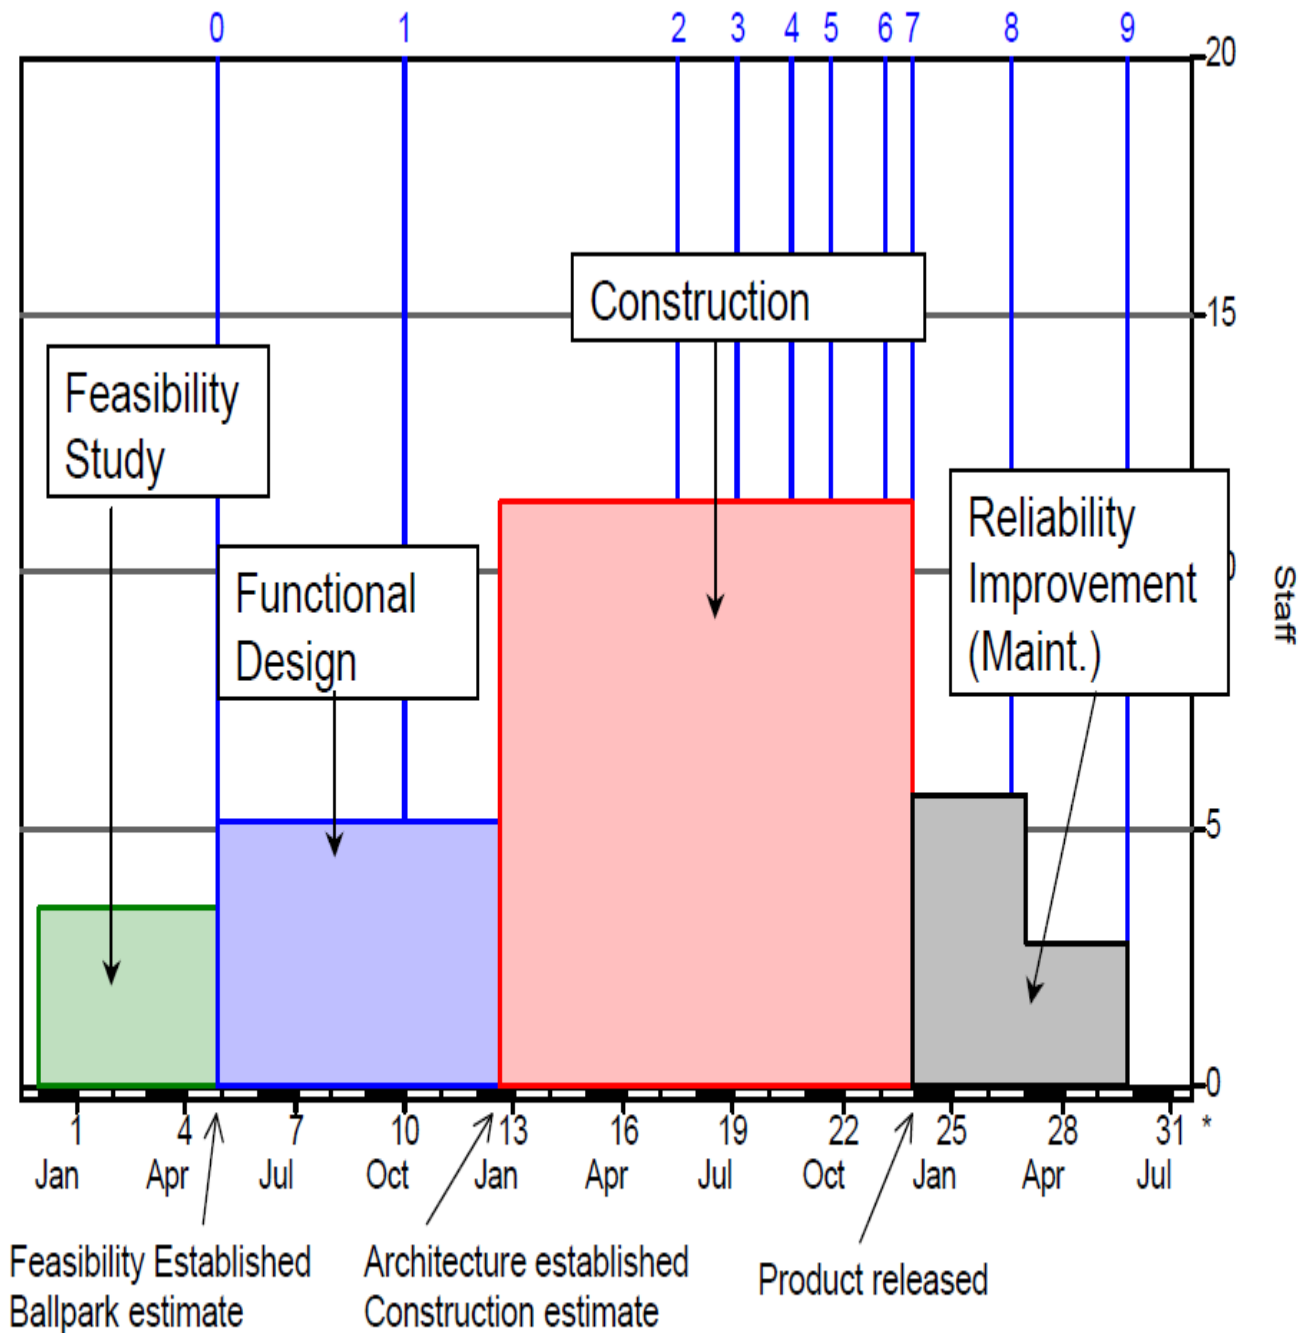

Figure 1. Until feasibility is established, there is no point to expending all that effort (money) in the later stages.
2. Carrying the plan far enough to make ballpark estimates of these basic metrics. (More precise estimates come later, when you know still more.) See Figure 1.